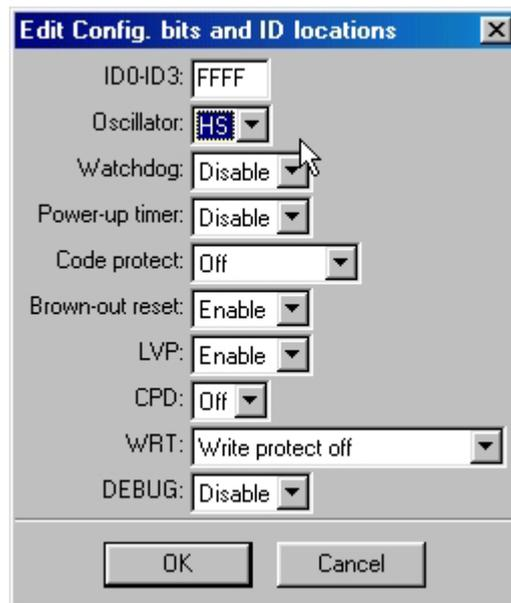

FIGURE 14: CONFIGURATION BITS MANAGEMENT WITH PG4UW
G) To access the device configuration bits window (see figure 14) press the key ALT and, at the same time, pressing letter "s"